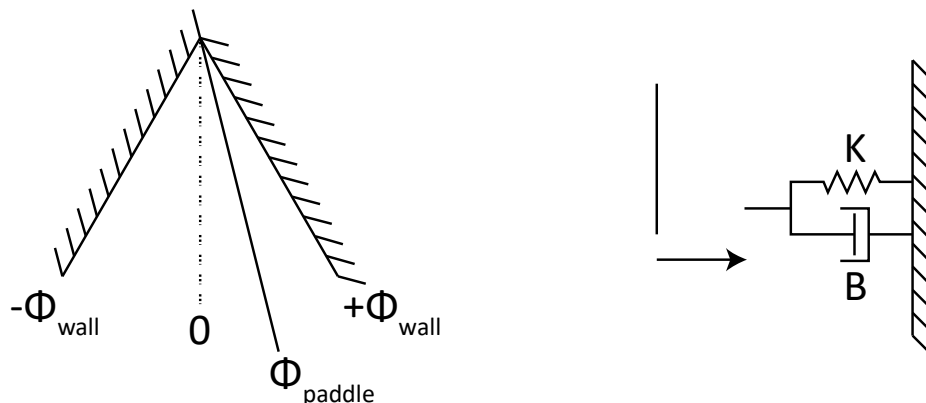

Figure 1: virtual wall angular range (left), and physical modelling (right)
- Design and implement two virtual walls, applying a viscoelastic (a spring with a damper) behavior once the paddle reaches  $\Phi_{\text{wall}} = \pm 15^\circ$  (see Figure 1). Keep the active compensation of the friction and the gravity.